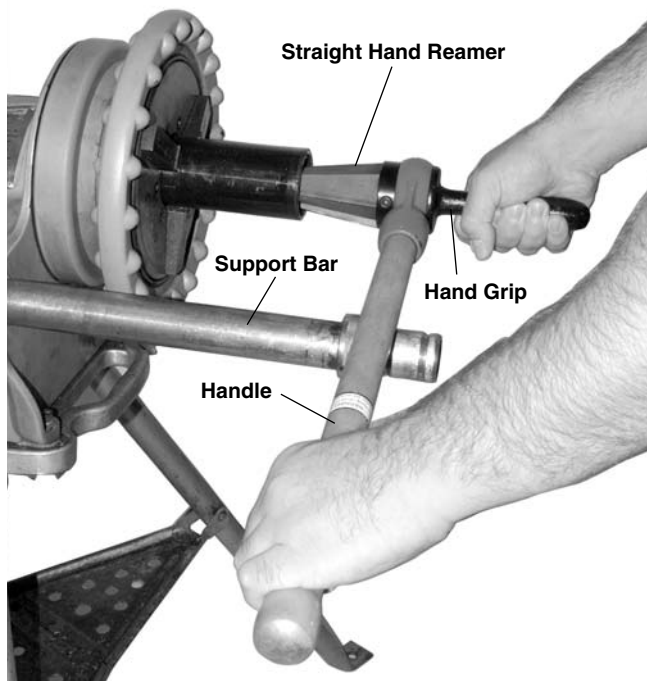

Figure 6 – Reaming Pipe with Hand Reamer
4. Rest handle on the left support bar (*Figure 6*) and hold the reamer handgrip with the right hand. To avoid pinch point injuries, keep your fingers from coming between the reamer and the support bar.